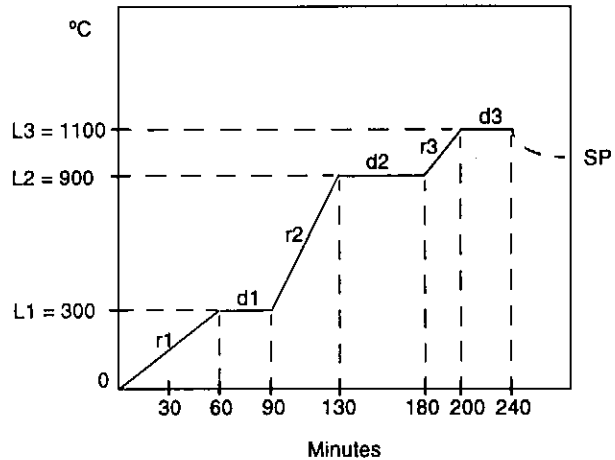

Figure 5. Three-step Program
Example 1 (shown in Figure 5) has three ramp/dwell pairs, so Pr is set to the value 3. The idle setpoint (SP) is set to 1000°C prior to running the program.